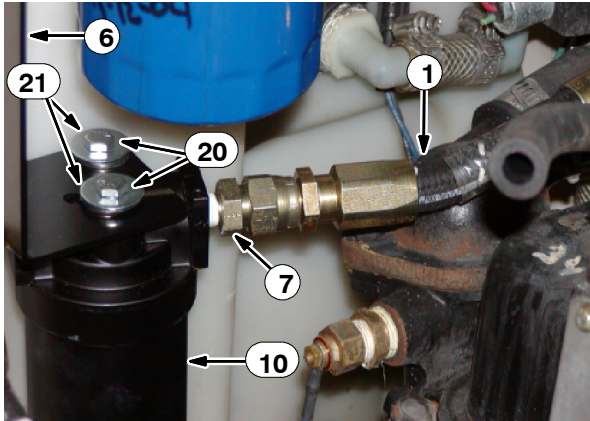

FIG. 16
36. Loosely thread the other end of the 8.5" LPG hose (1) into the straight fitting (7) already installed into the LPG fuel filter (10). Refer to Fig. 16.
37. Use two hex screws (20) and two flat washers (21) to install the LPG fuel filter (10) onto the LPG filter bracket (6). Refer to Fig. 16.